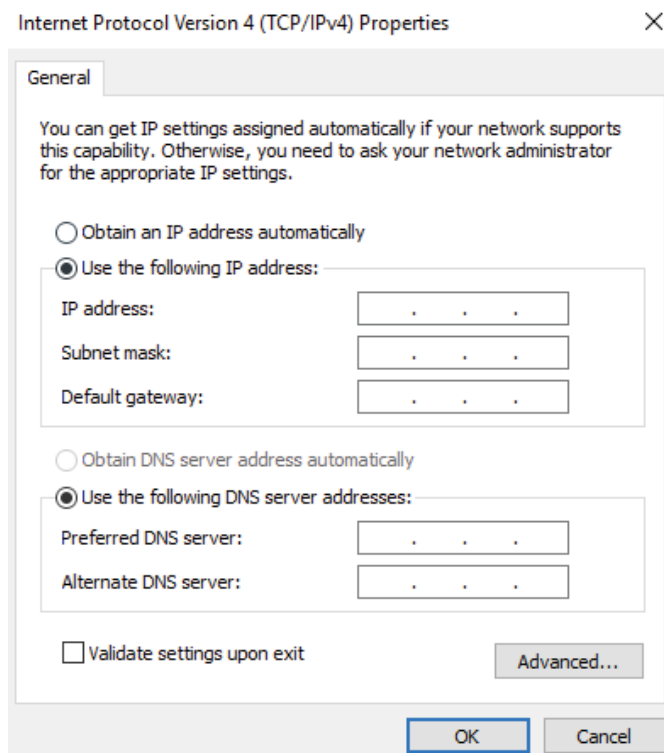

Figure 2-32. Internet Protocol (TCP/IP) Properties Dialog
7. Click the Use the following IP address button as shown in Figure 2-32. Type the IP, Subnet mask, and Default gateway information.